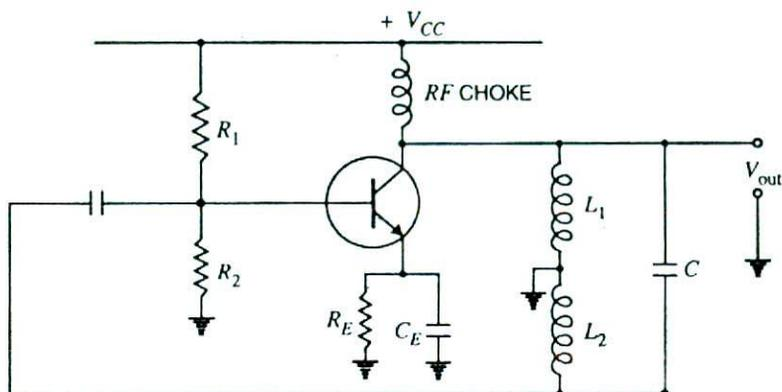

Fig. 16.25
2. Figure 16.25 shows the Hartley oscillator. If  $L_1 = 1000 \mu\text{H}$ ,  $L_2 = 100 \mu\text{H}$  and  $C = 20 \text{ pF}$ , find the (i) operating frequency and (ii) feedback fraction. [(i) 1052 kHz (ii) 0.1]
4. For the Hartley oscillator shown in Fig. 16.25,  $C = 250 \text{ pF}$ ,  $L_1 = 1.5 \text{ mH}$ ,  $L_2 = 1.5 \text{ mH}$  and  $M = 0.58 \text{ mH}$ . Determine the operating frequency. [159.2 kHz]